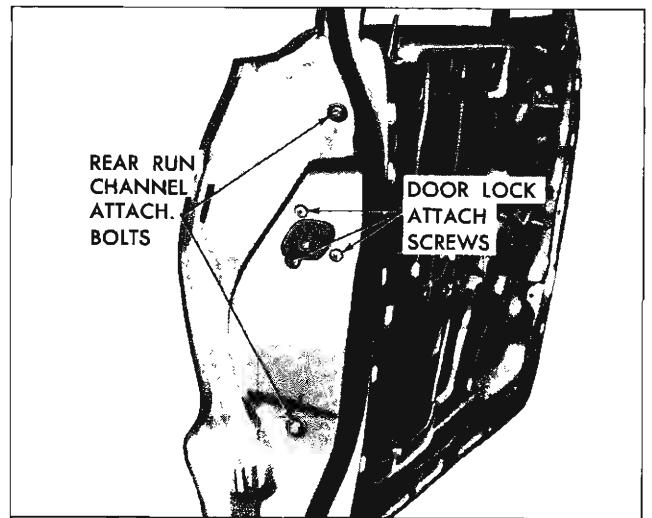

Fig. 3-35 Door Lock Pillar Hardware
2. To adjust lower section of window rear glass run channel in or out for proper alignment with window, raise window. Loosen rear run channel lower attaching bolts, adjust channel as required and tighten bolts. (Fig. 3-35).